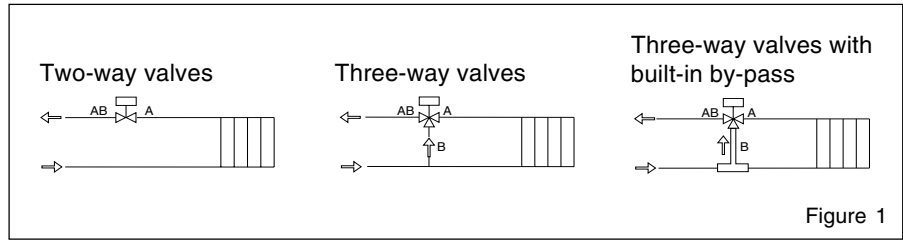

Figure 1
**Do not** mount the valve with the stem pointing downwards! See figure 1 for typical operations.